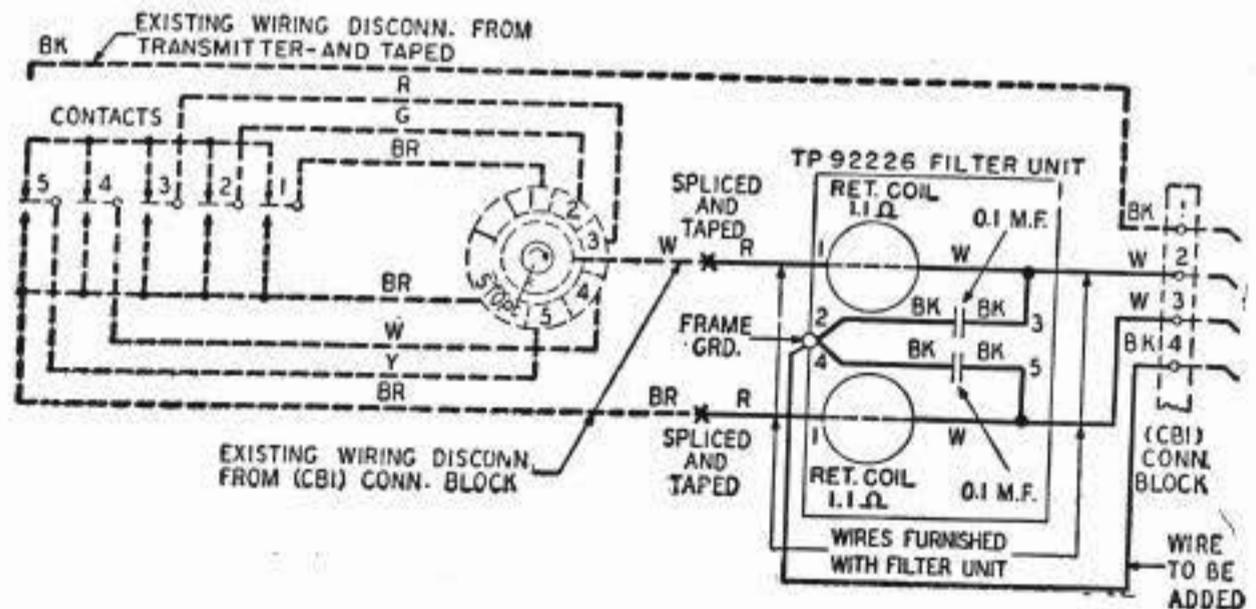

Fig. 1
2.02 Referring to Fig. 1, connect the remaining leads of the filter unit as follows: **Fig. 1**
- (1) Remove the brown lead from terminal 3 of CB1 and splice it to the red lead of the filter coil located farthest away from the bracket.
- (2) Connect the white lead of this coil to terminal 3 of CB1.
- (3) Remove the white lead from terminal 2 of CB1 and splice it to the red lead of the filter coil nearest the bracket.
- (4) Connect the white lead of this coil to terminal 2 of CB1.
- (5) Check the filter connections to see that they are in accordance with Fig. 1.